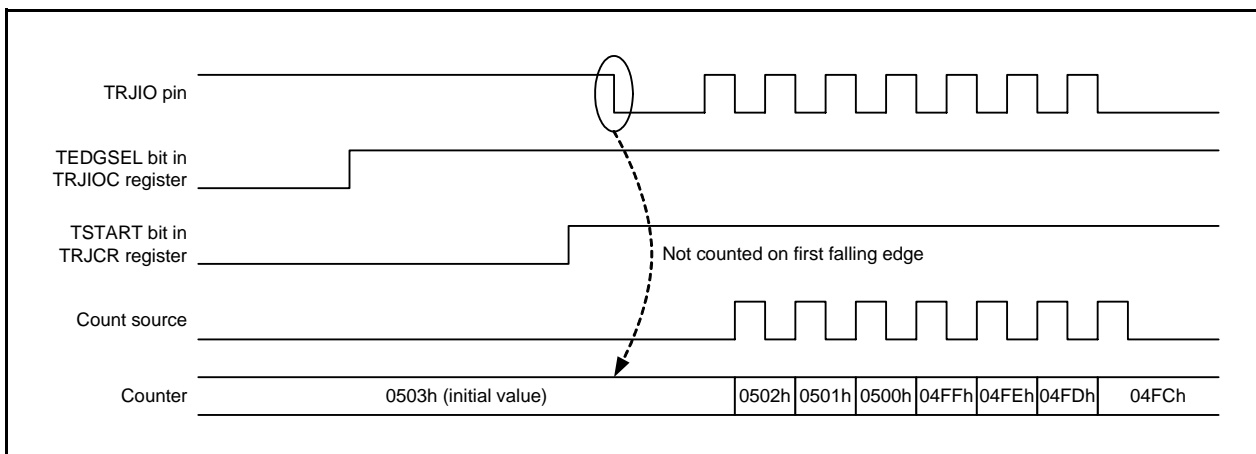

Figure 13.10 External Pulse Signal Timing in Event Counter Mode (1)
- (9) When the TEDGSEL bit in the TRJIOC register is set to 1 (count on falling edge) and the external signal (TRJIO) is counted in event counter mode, the signal may not be counted correctly depending on the state of the TSTART bit in the TRJCR register (see Figure 13.10).